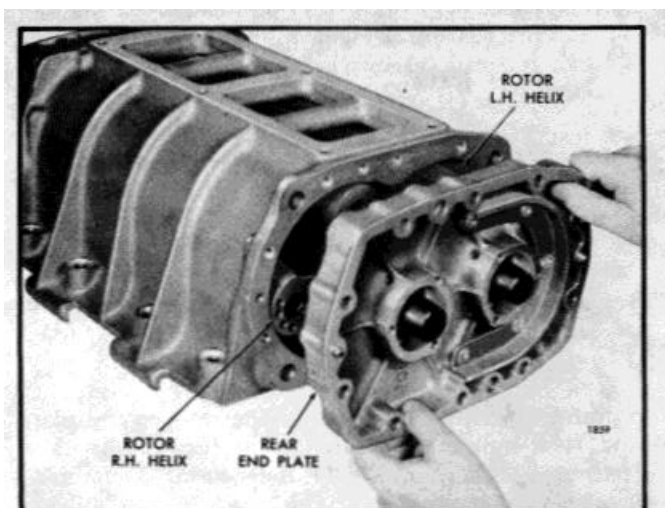

Fig. 12 - Installing Blower Rear End Plate (Lip Type Oil Seals) using Tool J 6270-5.
- e. Place the rear end plate over the oil seal pilots (Fig. 12) and start the dowel pins straight into the dowel pin holes in the housing. Push or tap the end plate against the housing.